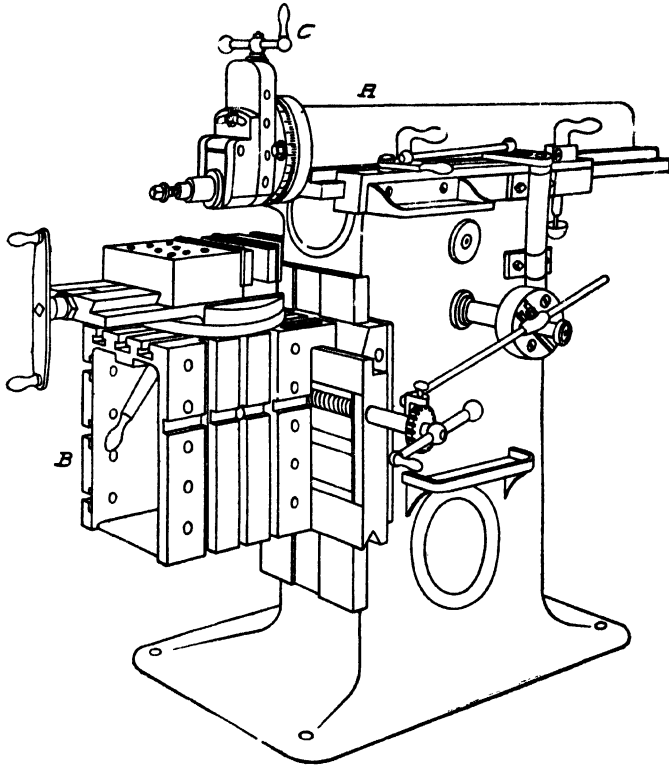

Fig. 66. Typical Pillar Shaper
**Characteristics.** In many respects the shaper and the planer are alike. The same cutting tools may be used in either and the general principles involved in the operation of these machines are quite similar. However, they differ materially in design; with the planer the work moves to the tool, while with the shaper the tool moves over the work. On the planer the vertical and lateral feeds are given to the tool, while on the shaper the lateral feeds are usually given to the work and the vertical feed to the tool. In what is known as the traverse-head shaper, both feeds are given to the tool and the work is held perfectly stationary. A shaper of standard design is shown in Fig. 66.